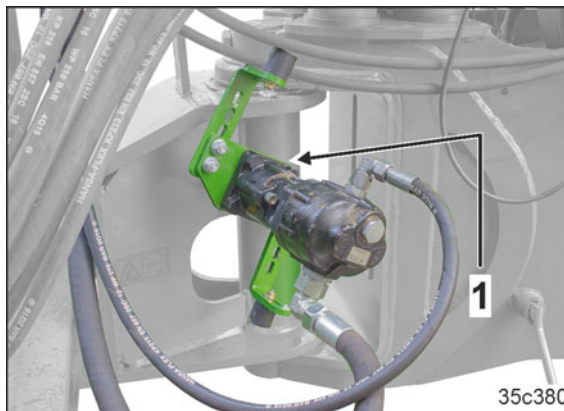

Fig. 138
14. Put the PTO shaft hydraulic pump into parking position (Fig. 138/1)